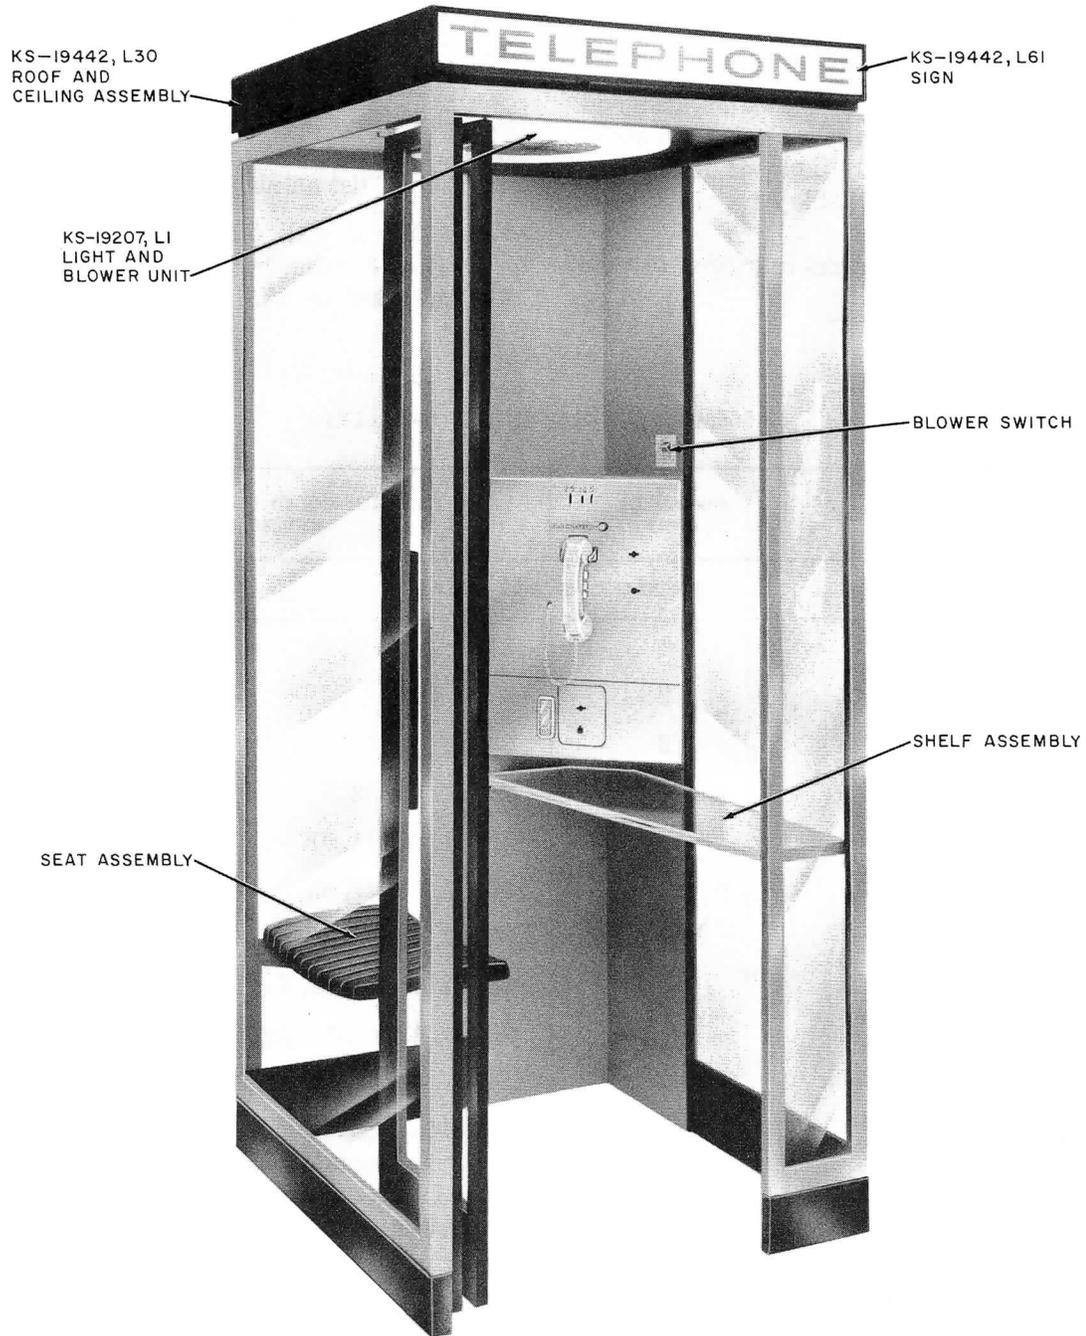

Fig. 1 — KS-19442 Deluxe Telephone Booth
**1.02** This booth is a deluxe type unit designed for sit-down service (Fig. 1). It is of metal and glass and may be used singly or in various multiple arrangements. See Table A.
**2.05** A formed plastic seat and a thick-tempered glass writing shelf (Fig. 1) are furnished as part of the booth. Stainless steel panels are mounted in the right rear corner. These panels provide a mounting for the backboards for a 1A, 2A, or 235G-type coin telephone. See Table B.
**2.06** A KS-19207, List 1 light and blower unit (furnished as part of the list 30 roof and ceiling assembly) is supplied with each booth for ventilation and illumination. A door-operated snap switch is used to control the light and blower; however, the unit may be wired for continuous illumination. A manual switch is provided for customer control of the blower (Fig. 1). See Section 508-820-100 for details of KS-19207 light and blower unit.